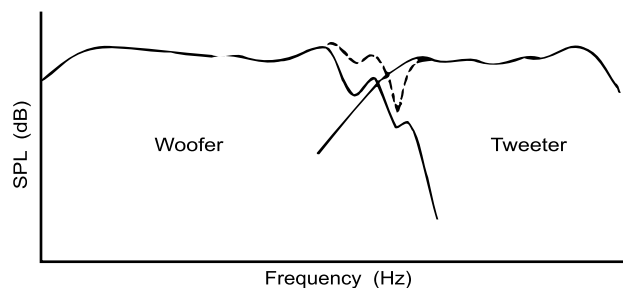

Fig. 12
- The selected crossover frequency should avoid any peaks or dips in the frequency response curves of either speaker. Fig. 12 shows a poorly chosen crossover frequency which will have an adverse effect on the quality of sound.
When changes in phase occur in the vicinity of the crossover frequency, as shown in Fig. 12, the "joining" of the sound between adjacent frequency ranges deteriorates, resulting in an unnatural sound reproduction.